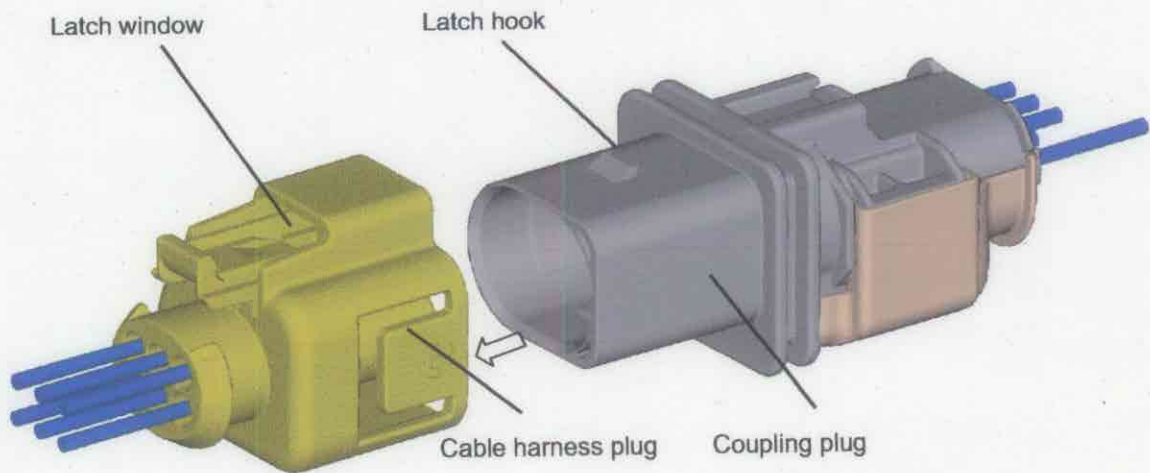
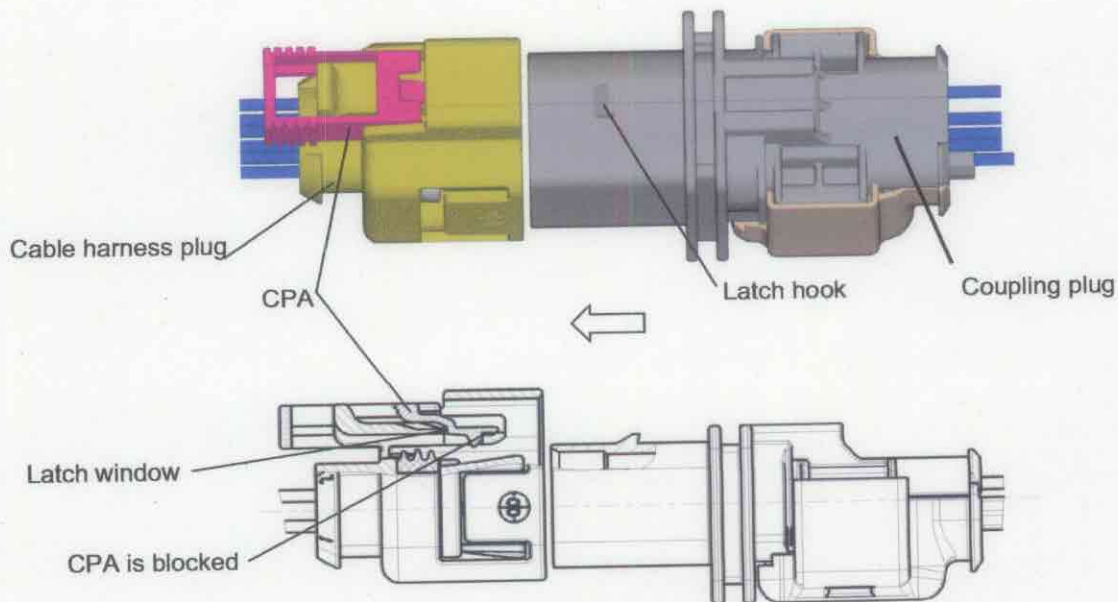

Fig. 2.1 Assembly cable harness plug with coupling plug
Fig. 4.1.1 Assembly of the plug connection
Align the coupling plug to the cable harness plug (Fig.2.1) and push together evenly until the latch window of the cable harness plug snaps into the latch hook on the coupling plug. The plug connector is in the end position when the latch hook has snapped into the latch window.
- 1st Step:** Align the coupling plug to the cable harness plug with pre-mounted CPA in accordance with 2.1 (Fig. 2.1). The CPA is blocked by the latch window in the pre-mounted condition and cannot be moved (Fig. 4.1.1).